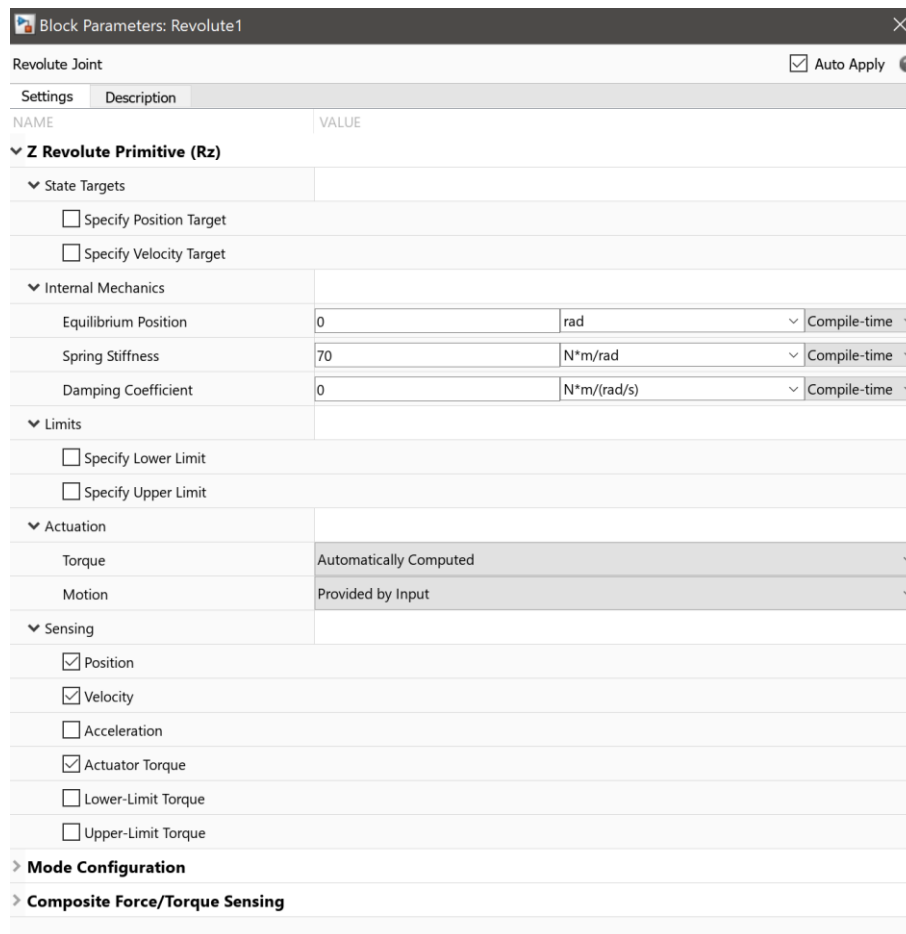

Figure 7: Revolute Block Parameters
8. Open the “Revolute1” block within the “HEBI Arm Subsystem” and modify the parameters to match the parameters as shown in figure7. Pay attention to the units, they must be using radians and not degrees.